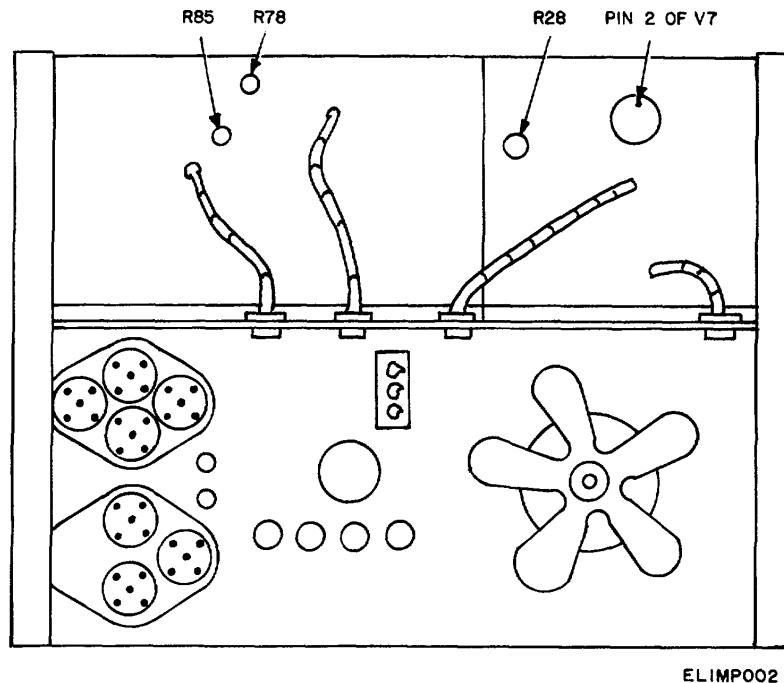

Figure 2. Rear interior view.
- (1) Remove TI from case.
(2) Adjust R78 (fig. 2) for a delay less than 5 microseconds as indicated on the oscilloscope. (R)
(3) Turn PULSE DELAY control to 50 microseconds as indicated on the oscilloscope.
(4) Loosen setscrews and slip PULSE DELAY control so that 50 is located under panel index marker. Tighten setscrews. (R) Repeat the performance check.
- (2) Adjust R85 (fig. 2) for a pulse width less than 0.5 microseconds wide as indicated on the oscilloscope.(R)
- (3) Adjust PULSE WIDTH control of TI for a 10 microsecond wide pulse as indicated on the oscilloscope.
- (4) Loosen knob setscrews and slip PULSE WIDTH control so that 10 is located under panel index marker. Tighten setscrews. (R) Repeat the performance check.